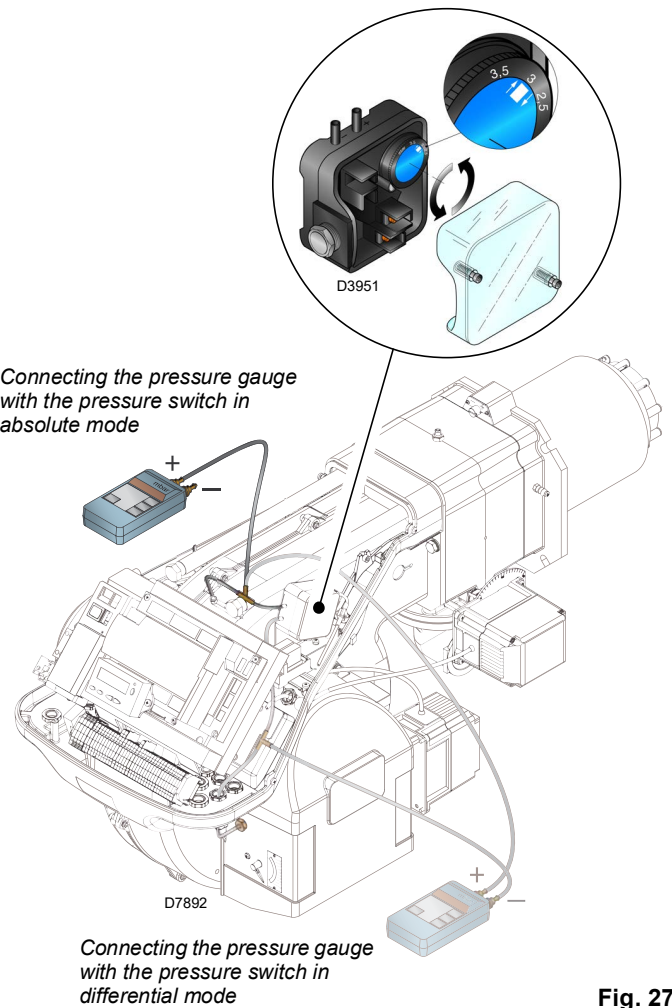

Fig. 27
- Adjust the air pressure switch (Fig. 27 at page 30) to the start of the scale.
Adjust the air pressure switch (Fig. 27) after having performed all other burner adjustments with the air pressure switch set to the start of the scale.
The connection of the pressure gauge is shown in Fig. 27. The standard configuration is that with the air pressure switch connected in absolute mode. Note the presence of a "T" connection, not supplied.
In this case also, the pressure gauge must be connected in differential mode, as shown in Fig. 27.